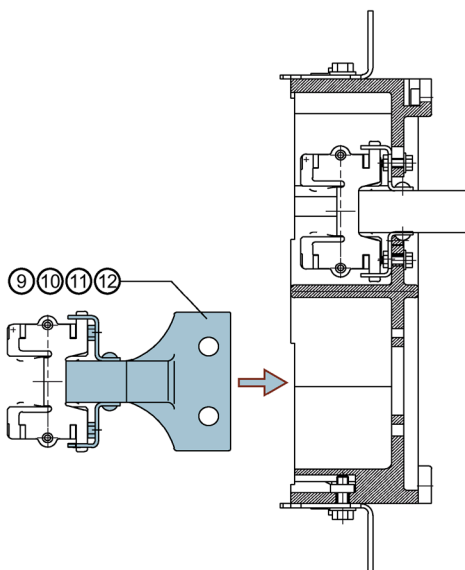

Fig. 2
2. Insert the new connection pieces (Fig. 2) and secure them by means of the enclosed screws and strain washers (Fig. 3) (tightening torque: 8 ± 1 Nm).